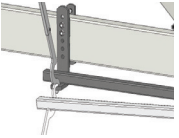

Figure 29
5. Raise the trailer jack until you can slide the spring arms onto the L-brackets; if needed, use the Snap-up lever. (Figure 29)